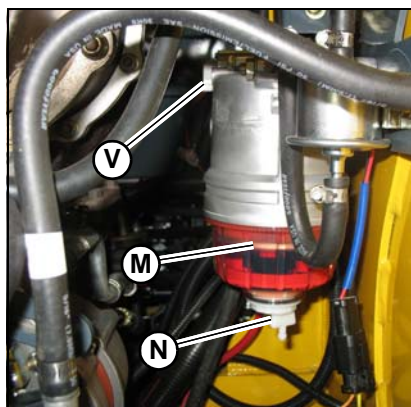

Figure 98 – Water Separator
3. Inspect the water separator (Figure 98) for the presence of water:
- If the indicator ring (M) is at the bottom of the cup, no action is required.
- If the indicator ring (M) is floating off the bottom of the cup, water is present and needs to be drained.
5. Turn the fuel valve lever (V) on the water separator to the OFF position.
6. Loosen drain plug (N) at the bottom of the water separator. Allow water to drain until indicator ring falls to the bottom of the cup.
7. Tighten drain plug (N) and discard fuel/water according to environmental laws.
3. Turn the fuel valve lever (V, Figure 98) on the water separator to the OFF position.
6. Turn the fuel valve lever (V) on the water separator to the ON position.